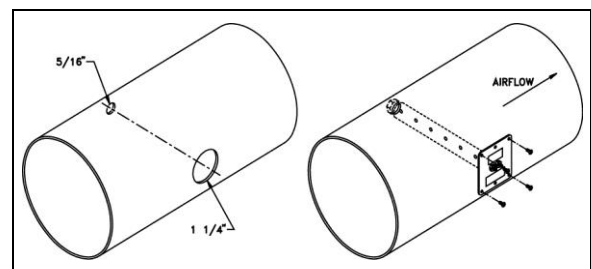

Figure 10: Flow Station Hole Location
2. Drill a 1 1/4" hole in the side of the duct work. If probe is longer than 18 inches, drill a 5/16" hole directly across from the 1 1/4" hole (Figure 10).
5. Screw the flow station into place with sheet metal screws (screws not provided by TSI). On 18 inch and longer flow stations tighten the 5/16" nut. The finished installation should look like Figure 10.